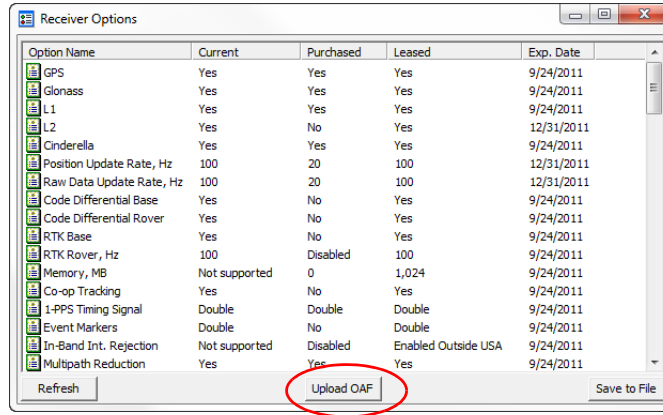

Figure 22: Receiver Options
3. Click the **Options**  icon in the main window. The **Receiver Options** window (Figure 22) displays, so you can view the current authorization options and upload new ones.
2. Click **Upload OAF** on the bottom of the **Receiver Options** window (see Figure 22).